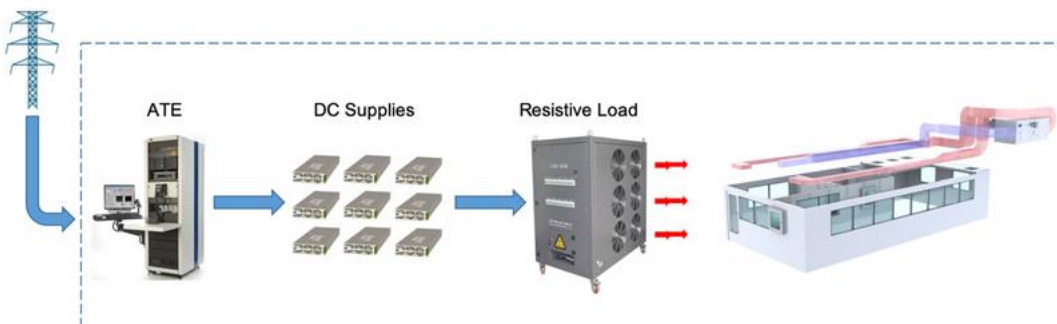

Figure 5. Each burn-in station in the facility energizes nine power supplies at full load for 80 hours
- Each burn-in station consumed 12.5 kWh (42,500 BTU) per hour over an 80-hour continuous burn-in cycle (Figure 5).